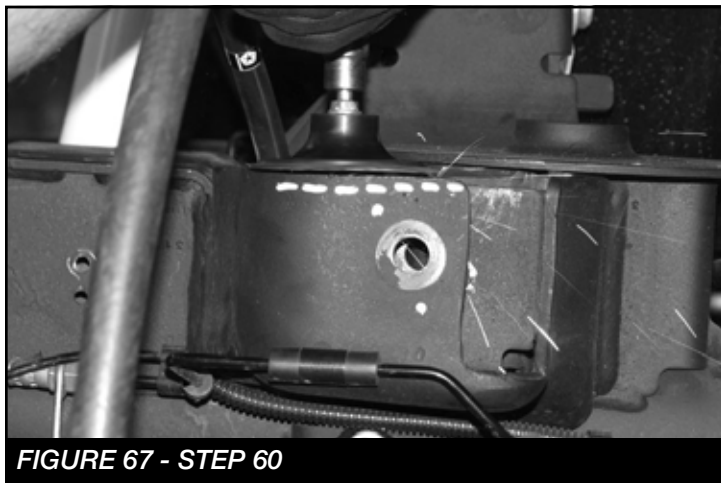

FIGURE 67 - STEP 60
60. Locate the FT44333BK rear track bar support bracket. TRIMMING MAY BE REQUIRED TO INSTALL THE NEW FT44333BK REAR TRACK BAR SUPPORT BRACKET. **SEE FIGURE 67**